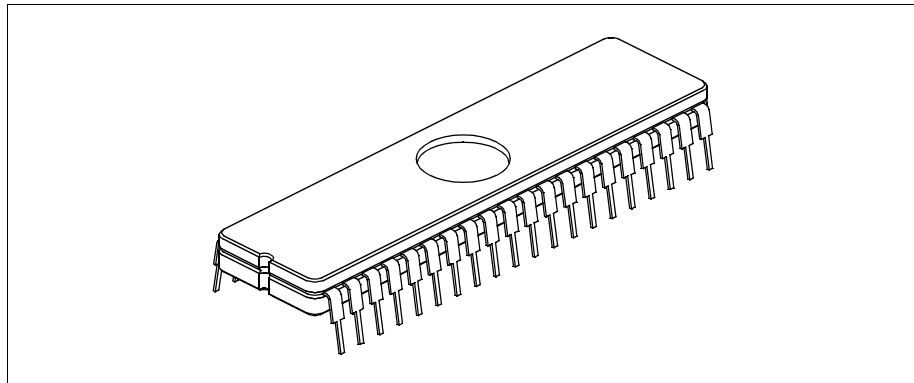

Figure 2.2: PIC16C74 Windowed Device
- Remove any labels covering the device window. If you do not have a windowed device (Figure 2.2), you cannot reprogram it. A windowed version of all EPROM devices may be ordered by requesting the JW package.
- Place the device in an Ultraviolet (UV) EPROM Eraser. The amount of time required to completely erase a UV erasable device depends on: the wavelength of the light, its intensity, distance from UV source, and the process technology of the device (how small are the memory cells).